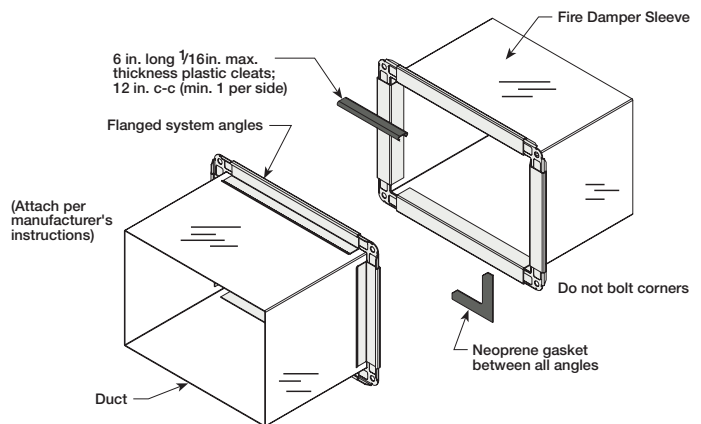

Fig. 13
**Manufactured Flanged System Breakaway Connections (Fig. 13)**
Flanged connection systems manufactured by Ductmate, Ward, and Nexus are approved as breakaway connections when installed as illustrated (Fig. 13).